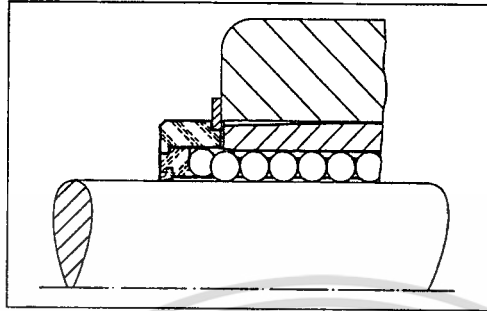

Figure 19: Retention by means of retaining rings to DIN 471.
- retaining rings (Figures 19 and 20)